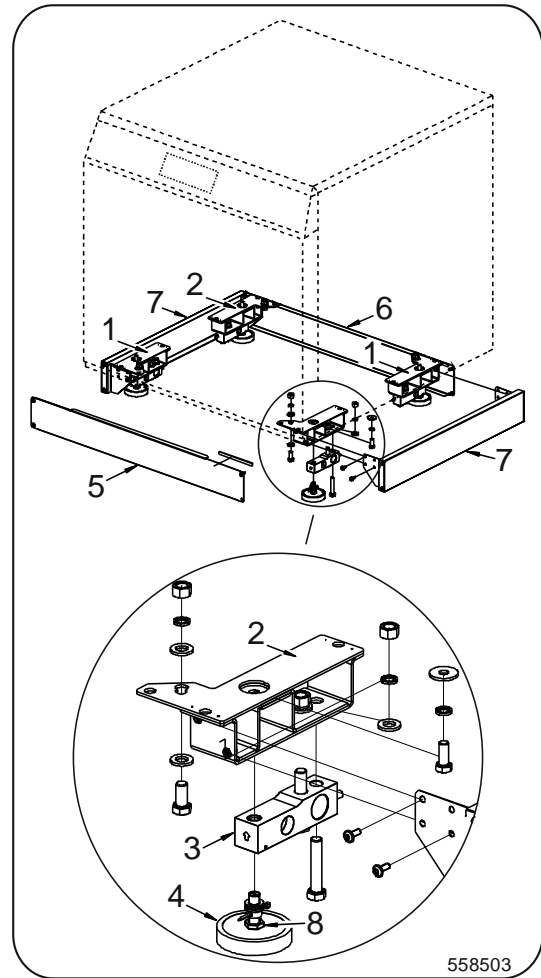
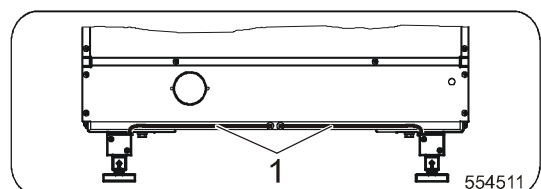

Figure 6
Figure 8
- Lift up the machine. Install two left load sensor supports and two right load sensor supports (pos.1 and 2) to the machine frame as shown in Figure 6.
- Install load sensors (3) with their rubber leveling legs (4) onto the supports.
- Fit the sensor cables into the prepared openings with cable fixtures as shown in Figure 8, pos. 1.
- Install the covers (5), (6), (7).